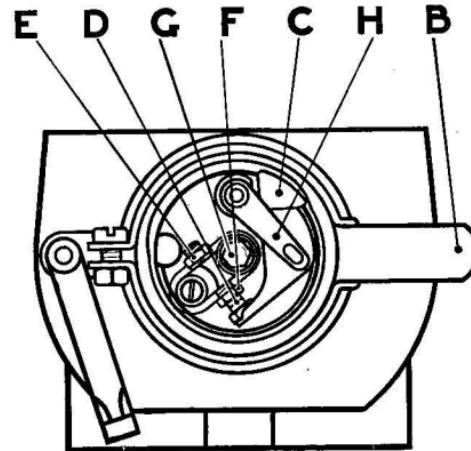

FIG. 6.
If adjustment is necessary, turn the engine round slowly until the points are seen to be fully opened, then using the magneto spanner, slacken the locking nut "E" (Fig. 6), and rotate the fixed contact screw by the hexagon head "F" until the gap at "D" is set to the thickness of the gauge; then screw up the nut "E" again until it is firmly locked.
or if it is merely the gap that is too large, it may be adjusted (see page 18). Missing with full throttle is sometimes due to the plug gap being too wide. Bad plug insulation is sometimes caused through sooting, and may occasionally be remedied by washing the plug out with petrol. It is sometimes recommended to remove the plug, and, allowing the body to rest on the cylinder head, to observe whether a spark occurs at the points when the engine is slowly turned. It should, however, be noted that this is only a rough test, since it is possible that a spark may not take place when the plug is under compression. If it is suspected that the ignition has failed completely, this may be checked by removing from the plug terminals the high-tension cable and observing whether a spark takes place on turning the engine round with the terminal lead held about  $\frac{1}{8}$ " from some metal part of the engine. If no spark occurs, examine the contact breaker; slowly turn the engine over, and observe the action of the contact breaker rocker arm; it is possible that the arm is not answering to its control spring, and is remaining permanently open as it is rotated. If this appears to be so, remove the contact breaker and applying pressure with the finger on the fibre heel "C" (Fig. 6), observe whether the points readily open and close. If they are at all sluggish, push aside the locating spring "H" (Fig. 6), and prising the rocker arm off its bearing, examine the steel pin on which it works, cleaning this, if required, with fine emery cloth, wiping away all grit, and moistening the pin with oil before replacing the lever. We need hardly warn the reader that no trace of oil should be left anywhere near the contact points after this has been done.
4. With the "Magdynos" provided with variable ignition, the ignition control or the timing lever "B" (Fig. 6) should be moved to the fully retarded position, that is, to the limit of its travel in the forward direction.